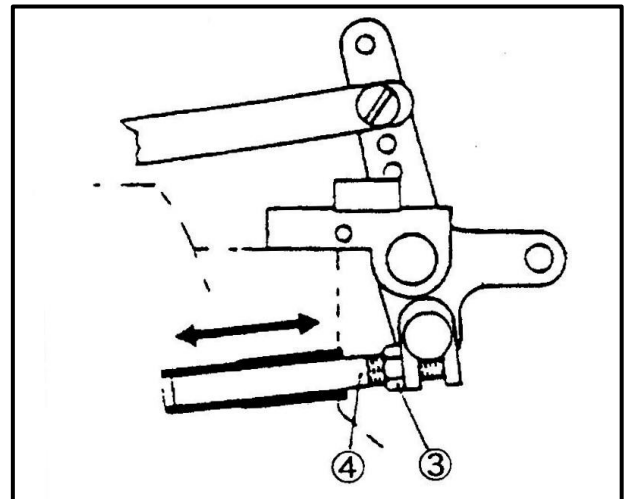

Fig.8
1. Loosen the lock nut ③ . (Fig.8)
2. Move the presser foot lifter stop plunger plunger ④ in or out to adjust the clearance.